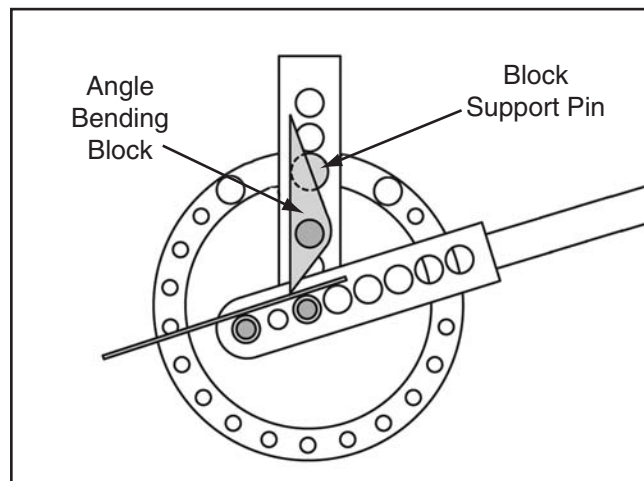

Figure 6. Basic angle bending setup.
1. Mount the block support pin and the angle bending block onto the bending bracket, as illustrated in **Figure 6**.